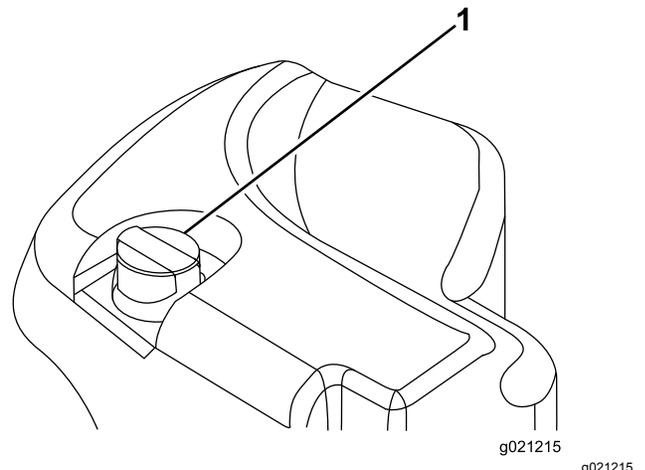

Figure 30
- Clean the area around the filler neck and cap of the hydraulic tank (Figure 30). Remove the cap from the filler neck.